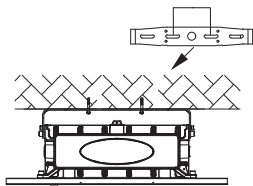

Figure 4
4. Tighten the nut of the screws (Figure 4).